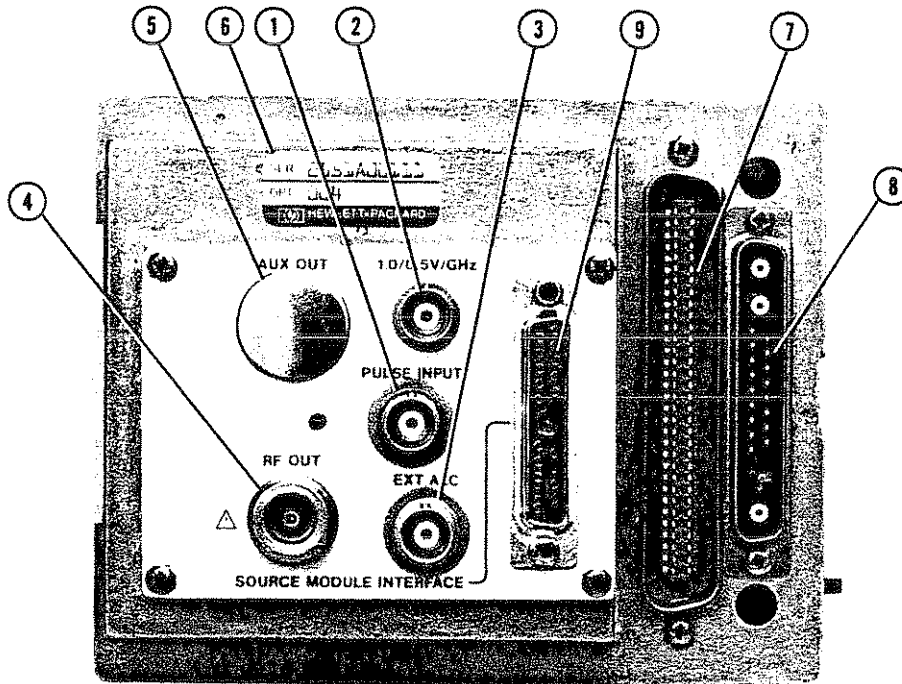

Figure 3-3. Option 004 Rear Panel
2. **1.0/0.5 V/GHz.** Internally switch selectable (1 V/GHz or 0.5 V/GHz) with a BNC connector output that corresponds to the RF output frequency (8.0 to 18 GHz for 1 V/GHz and 8.0 to 20 GHz for 0.5 V/GHz). The HP 8410B/8411A network analyzer utilizes the 1.0 V/GHz output for phase-locking. See Figure 3-3 for instructions on how to set the frequency reference selection switch (A5S1).